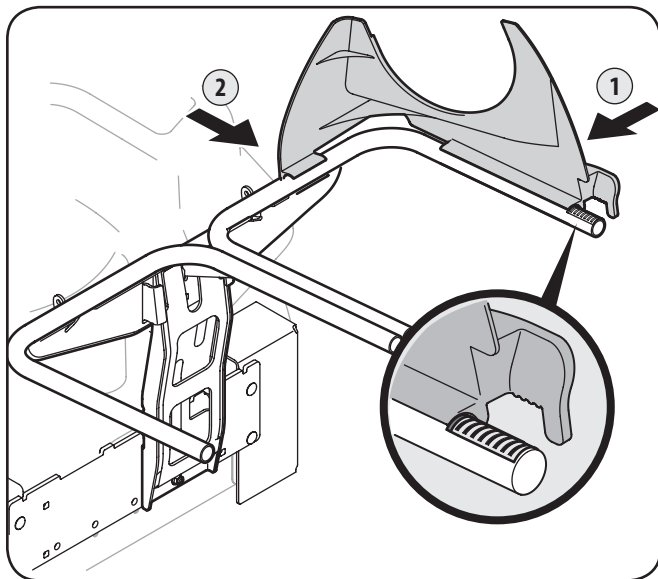

Figure 4-8
1. Snap the plastic upper chute support in place by first clipping the side portion onto the bagger support rail (1) with the edge of the snap feature aligned with the line on the label, as shown in the inset of Fig. 4-8.
2. Snap the front side of the chute support to the rail (2), as shown in Fig. 4-8.